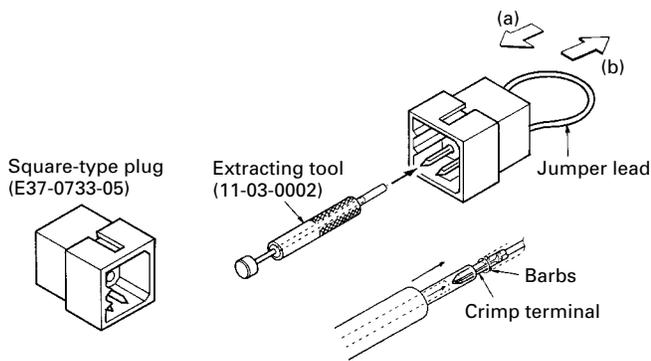

Fig. 8-1
1. Remove the connector with jumper from the external speaker connector on the rear panel of the radio (Fig. 8-1).